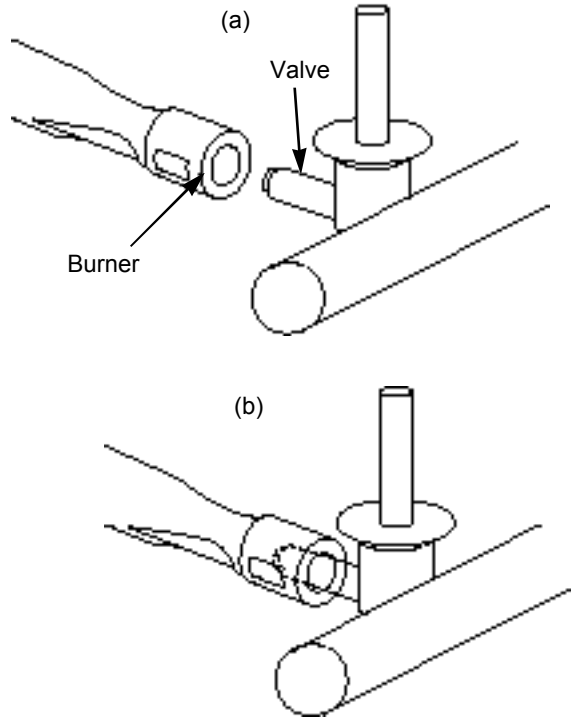

**Figure 14**
13. Lift and twist the burner assembly slightly to separate the crossover tube from the burners. Remove the burners from the cooking box. Figure 14.